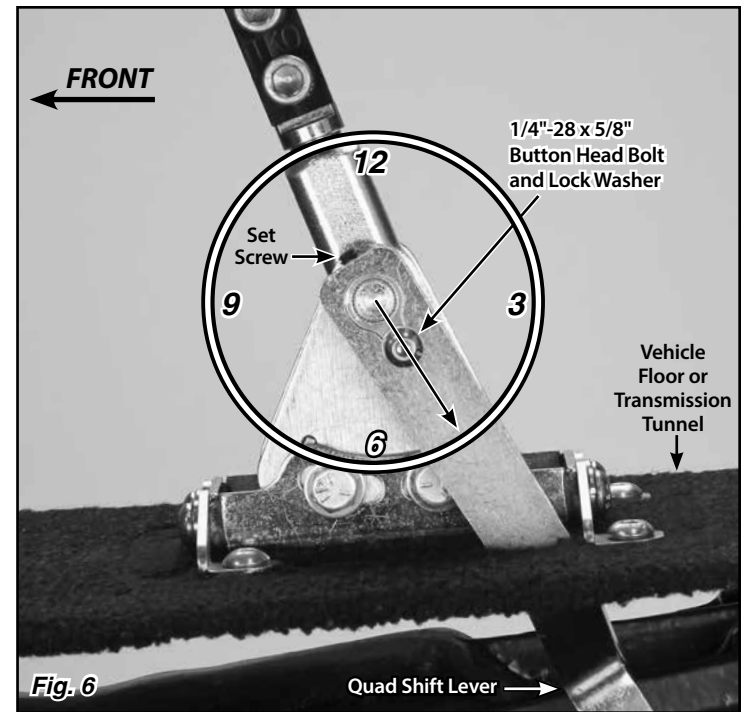

Fig. 6
**Step 8:** Temporarily place the quad shift lever in position on the quad lever bushing as shown in **Fig. 6**. Check for interference with the driver side rear floor mount tab or the vehicle floor. With the shifter lever in Park, you want the quad shift lever to be as close to the 4:30 - 5:00 position as the floor mount tab will allow, without the quad shift lever touching the floor mount tab or floor.